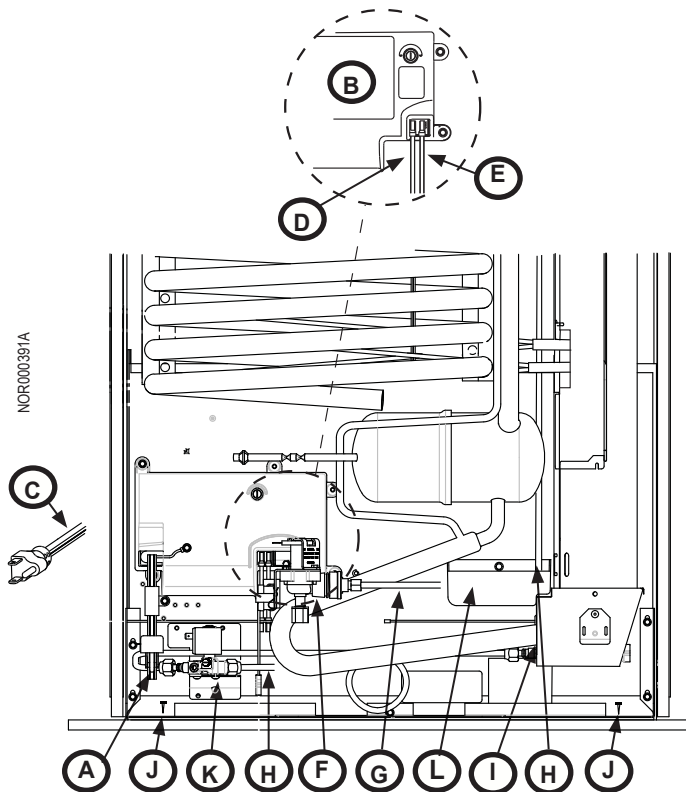

Fig. 1 - Refrigerator View Through Air Intake
3. Unplug 120 VAC power cord (Fig.1,A) from RV receptacle AND power board (Fig.1,B).
4. If ice maker equipped, unplug white ice maker power cord (Fig.1,C).
5. Disconnect RV +12VDC (Fig.1,D) input wire from power board terminal 12VDC (Fig.1,E).
6. Disconnect RV's 12VDC ground wire (Fig.1,E) from power board terminal GND.
3. Disconnect the incoming water line (Fig.1,G) at the refrigerator's water valve (Fig.1,F).
2. Use two wrenches to disconnect the propane supply line (Fig.1,H) from the burner (Fig.1,I).
1. Remove screws (2x) (Fig.1,J) from the mounting flanges at the rear of the refrigerator.